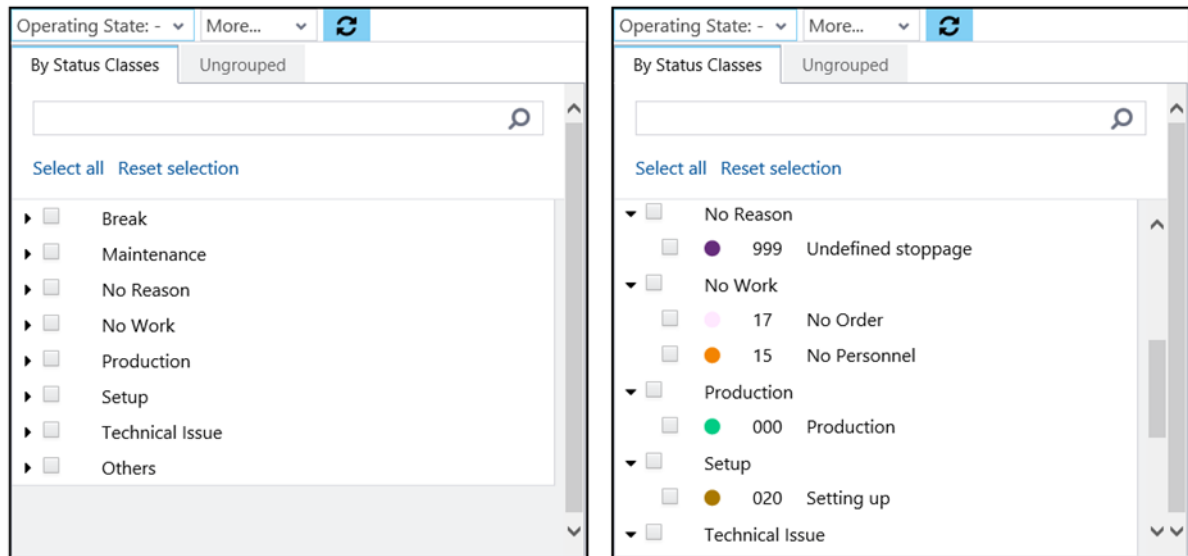

Fig. 12: Operation state classes collapsed and opened
- (4) If a check mark is set, all state classes in each operating state filter are opened by default (see fig. 12).
- (5) Determines the number of expanded levels in the hierarchy tab of the workplace filter.